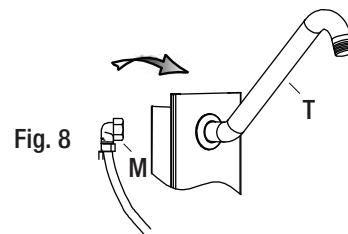

Fig. 8
- Connect the L-fitting (M) to the shower arm (T), see Fig. 8.